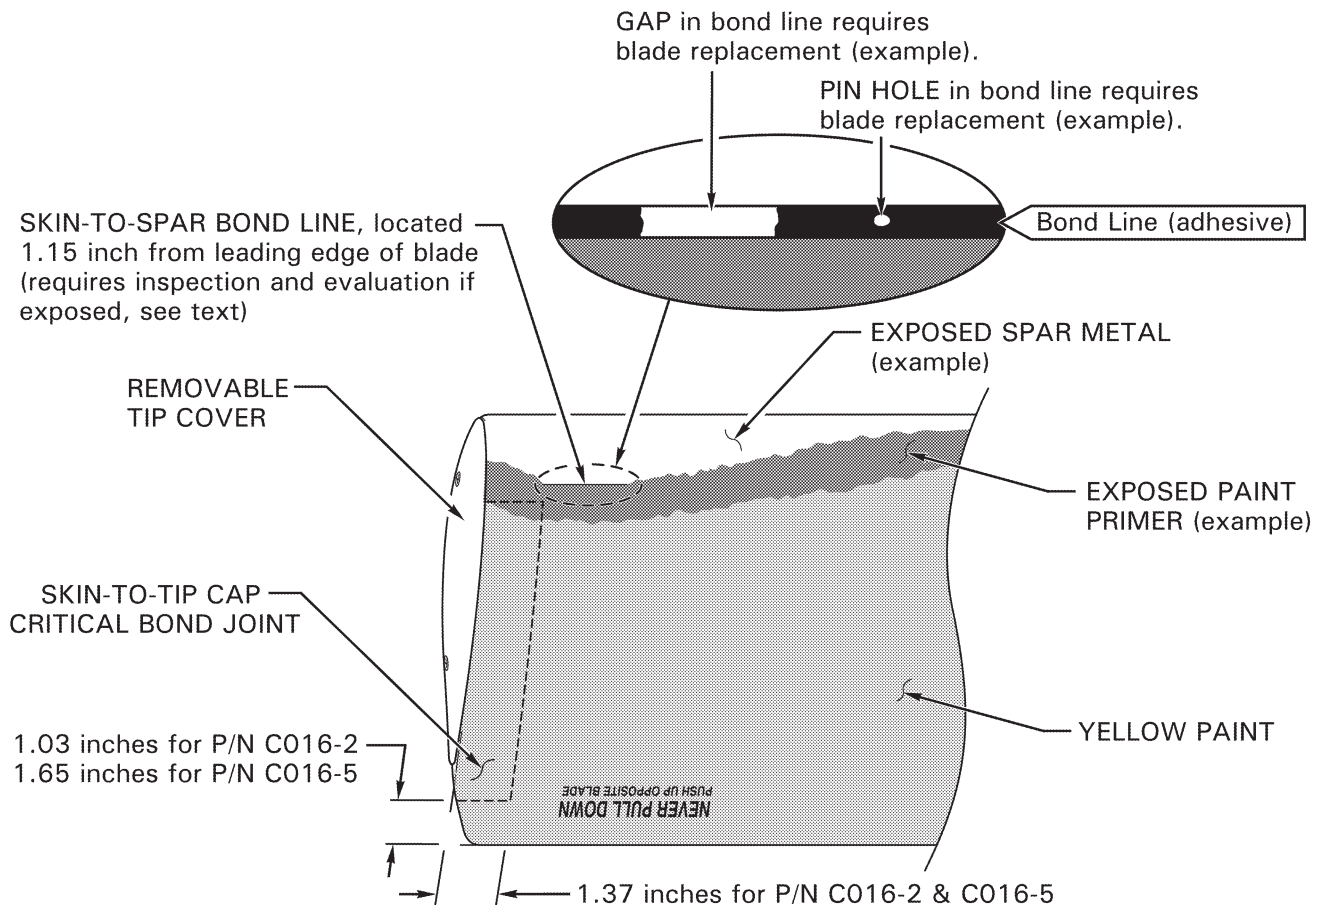

FIGURE 1 TIP AREA AND LOWER SURFACE
1. Refer to Figures 1 and 2. Remove both main rotor blade tip covers and clean the blades. Clean and remove any corrosion from tip covers.